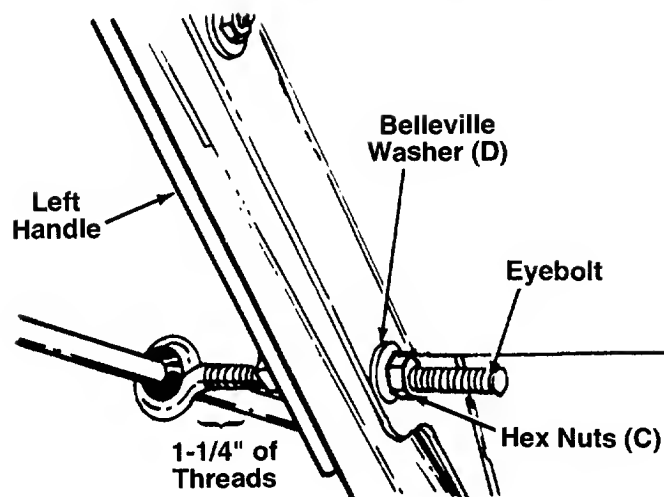

FIGURE 7.
7. Thread one hex nut (C) onto the eyebolt on the chute crank assembly until there is approximately 1-1/4" of threads showing between the nut and the head of the eyebolt. See figure 7.
8. Place the eyebolt into the lower hole in the left handle and handle panel. See figure 7. Secure with belleville washer (D) (cupped side against the handle panel) and hex nut (C). Do not tighten until after attaching the other end of the chute crank (step 14).